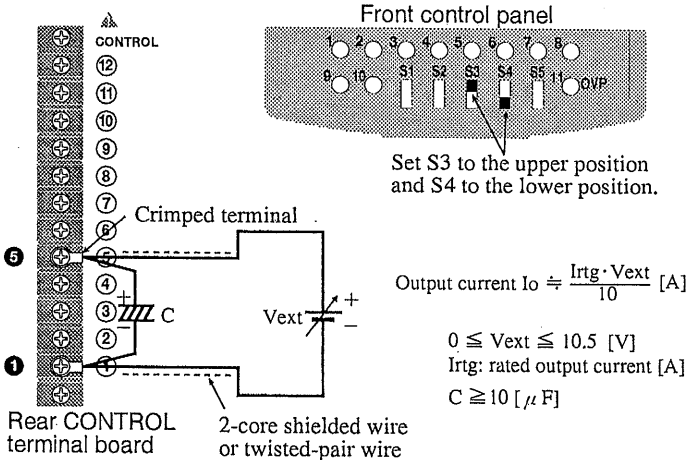

Fig. 3-6 Connection and setup for output current control using external voltage
- ④ Set the control switches S3 and S4 to the position as shown in Fig. 3-6.
- ⑤ Connect the voltage source across the control terminals ① and ⑤ as shown in Fig. 3-6.